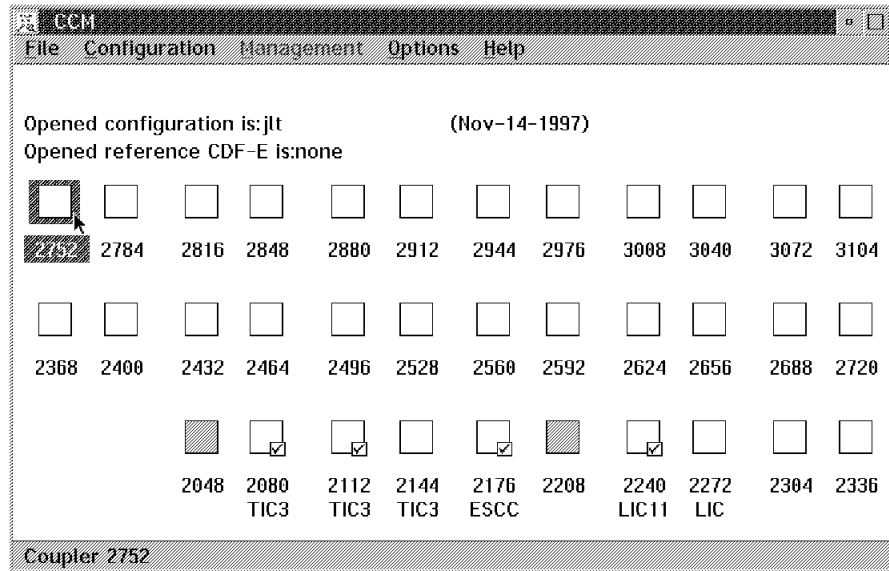

Figure 26-30. Selecting Port 2752 from the CCM Main Window
- Select the **2752 TIC3** from the CCM Main window shown in Figure 26-30 below.